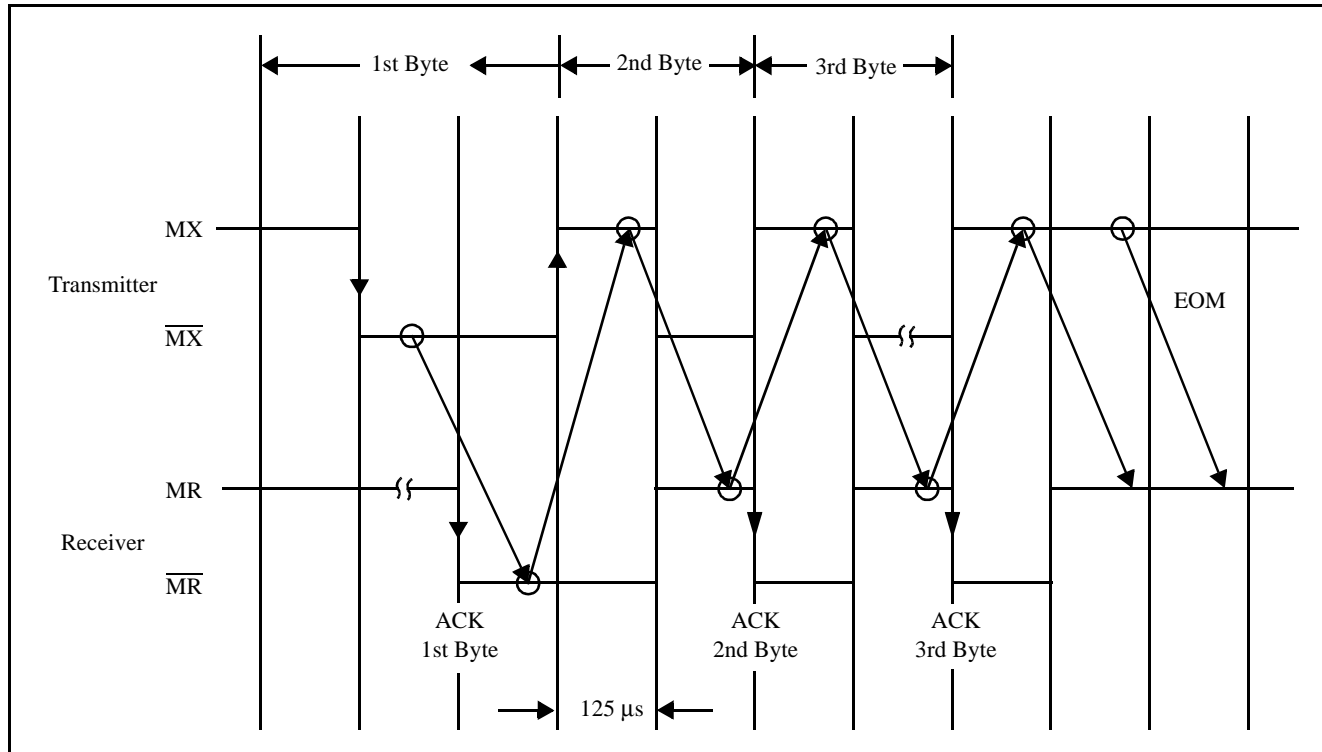

Figure 29 - Maximum Speed Monitor Handshake Timing
The Monitor Channel (see Figure 29) is used to read and write the QLSLAC device's coefficient registers, to read the status of the device and the contents of the internal registers, and to provide supplementary signaling. Information is transferred on the Monitor Channel using the MR and MX bits of the SC channel, providing a secure method of data exchange between the upstream and downstream devices.
- Figure 29 shows that transmission is initiated by the transition of the transmitter MX bit from the inactive to the active state. The transition coincides with the beginning of the first byte sent on the monitor channel. The receiver acknowledges the first byte by setting MR bit to active and keeping it active for at least one more frame.
- For maximum data transfer speed, the transmitter anticipates the falling edge of the receiver's acknowledgment, as shown in Figure 29.